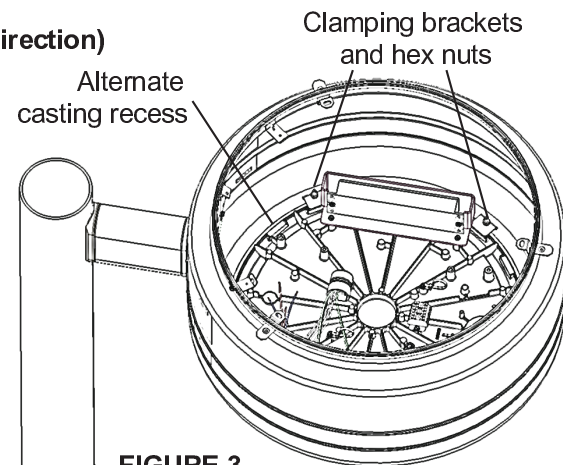

FIGURE 3
IMPORTANT: OPTICS ARE NOT ACCESSIBLE! OPTICS MAY BE ROTATED IN HOUSING IN 90 DEGREE INCREMENTS - SEE STEP 2 AND FIG. 3 BELOW.
2. If optics must be rotated, Remove (4) hex nuts and clamping brackets inside housing. See Fig. 3. Lift entire optic assembly slightly and rotate in desired direction. NOTE: Optics can only be rotated in 90 degree increments. Reposition clamping brackets into alternate casting recesses and secure into position with hex nuts. Tighten to 20 IN-LBS max.